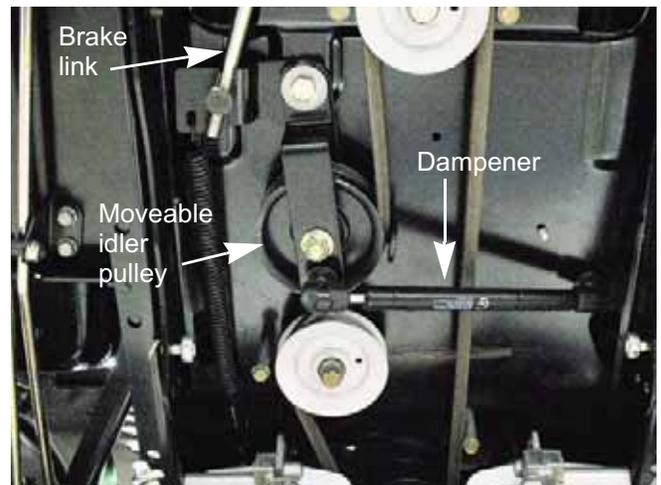

Figure 5B.21
**NOTE:** The moveable idler pulley has a dampener on it. The dampener allows a slow, smooth engagement of the drive belt. See Figure 5B.21